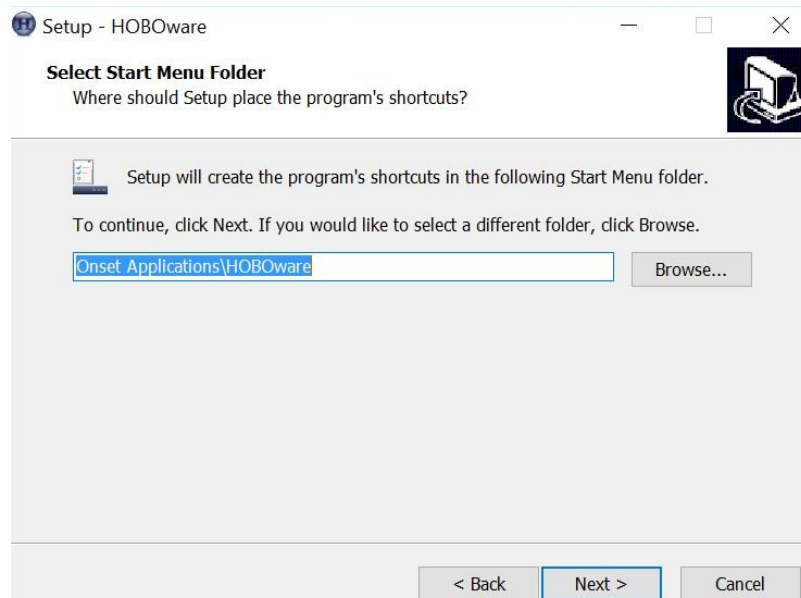

Figure 15. Select Start Menu Folder
- The next window (Fig. 15) will tell you that a program shortcut will be created in your Start menu. It will be convenient to have a shortcut to HOBOWare in your Start menu, now that you will be using it. Click NEXT.